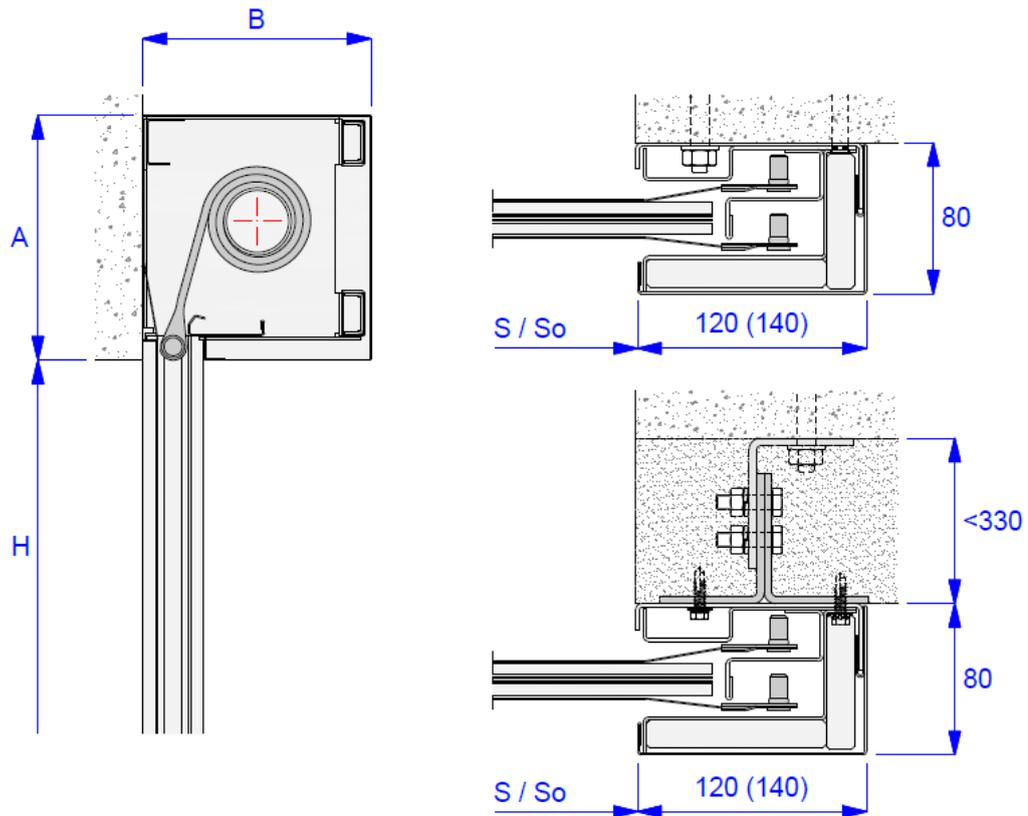

Fig. 3 – ISOiK-Ok60-01.03 MARC-Ok + EI60 fire protection curtain door – wall-mounted
1) – See Figures 3, 4
1), 2) – As shown in Figures 3, 4